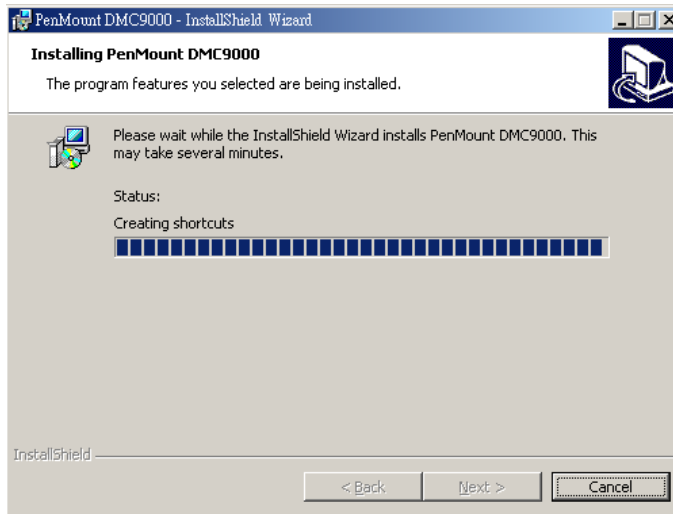

Figure 6-27: Installing PenMount DMC9000
Step 5: Click **INSTALL** to continue. The Installing PenMount DMC9000 screen appears as the program is installed (Figure 6-27).